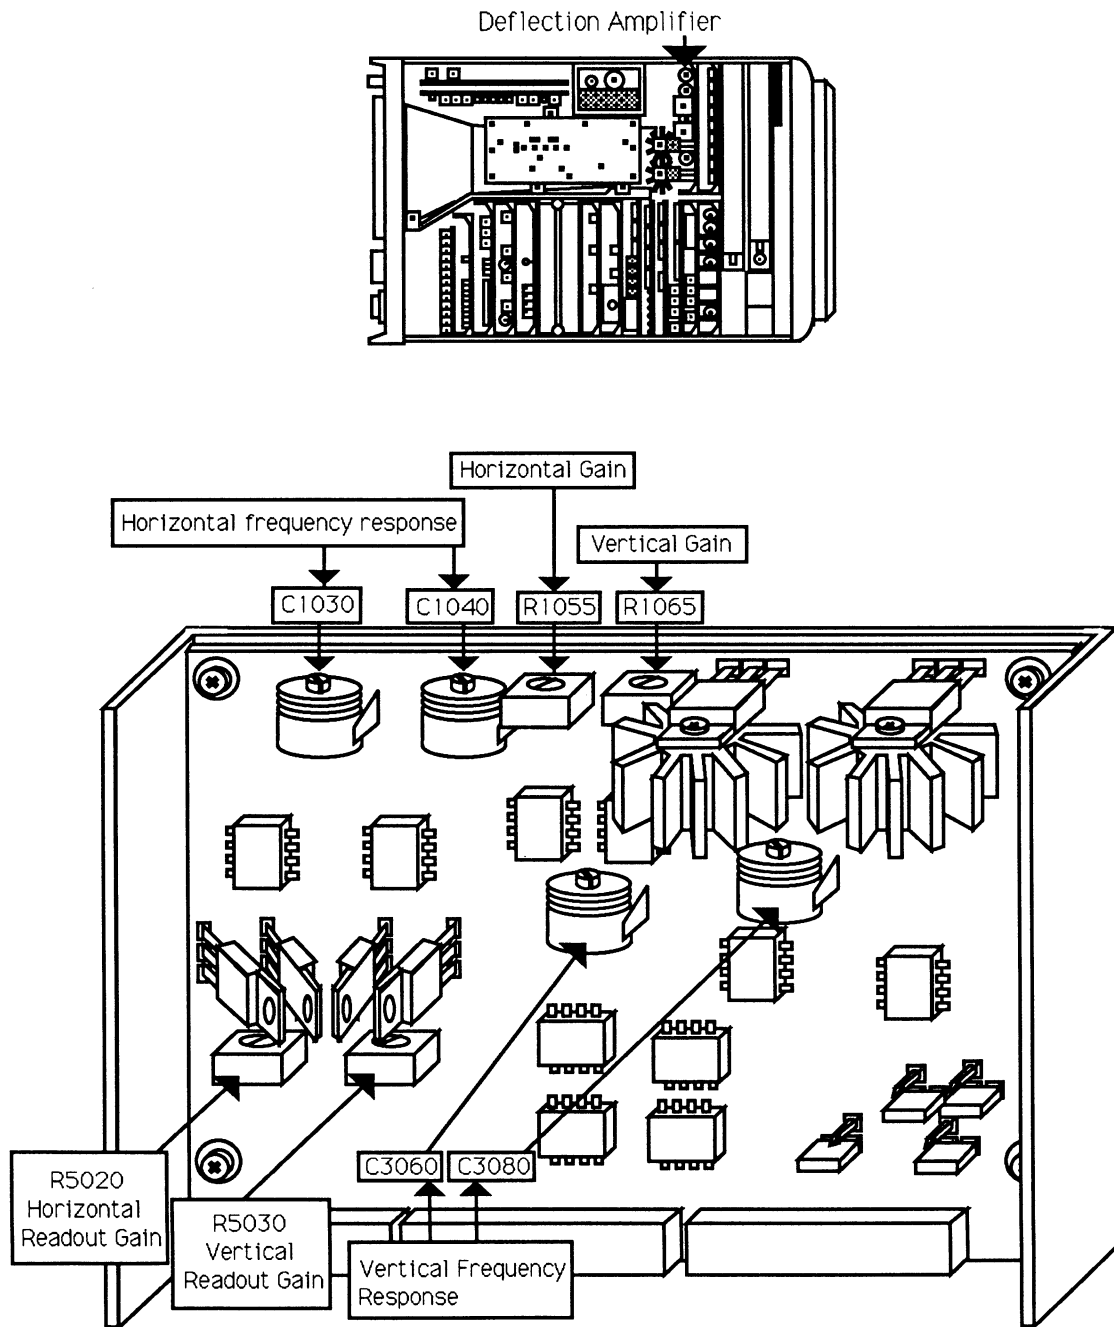

Figure 5-6. Deflection Amplifier test points and adjustments
K. Monitor the drains (metal tabs) of Q4040 or Q4030, on the deflection Amplifier board, with test oscilloscope. See Figure 5-6
- N. Adjust C1030 (Figure 5-6 for the best response).
Replace **figure 5-6** in the Adjustment procedure section with the following diagram